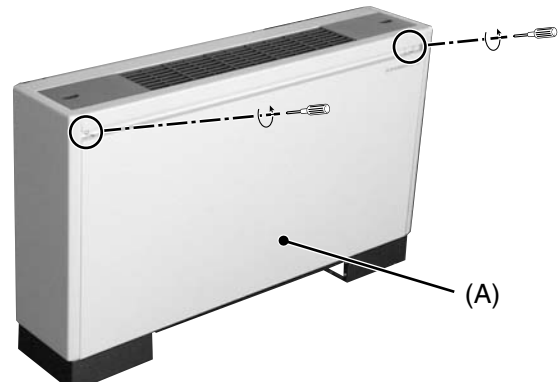

Fig.1
(1)Remove the fixing screws(two) of the front panel(A).(Fig.1)